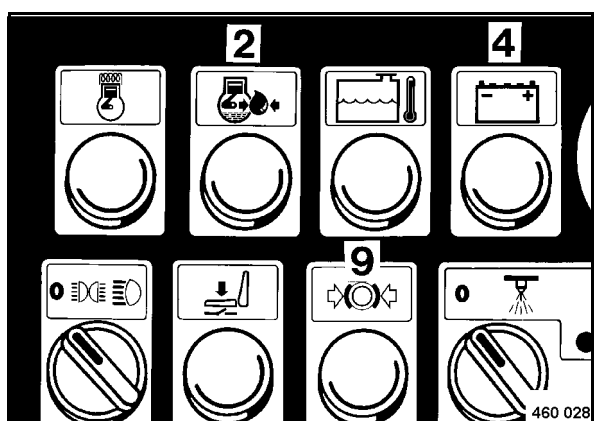

Fig. 41
Oil pressure warning light 2 (Fig. 41), charge control light (4) and parking brake warning light (9) light up.